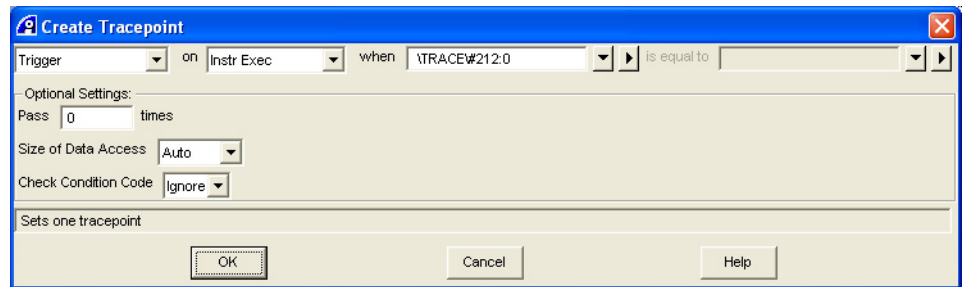

Figure 7-4 Create Tracepoint dialog box
2. Select **Create Tracepoint...** from the context menu to display the Create Tracepoint dialog box. Figure 7-4 shows an example: